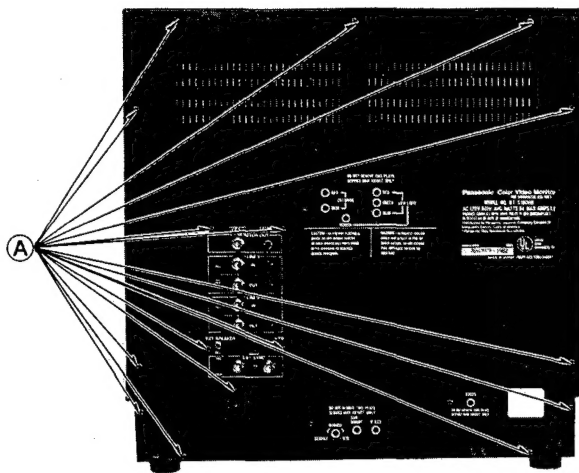

Figure 2
1. Remove 16 (A) screws shown in figure 2.